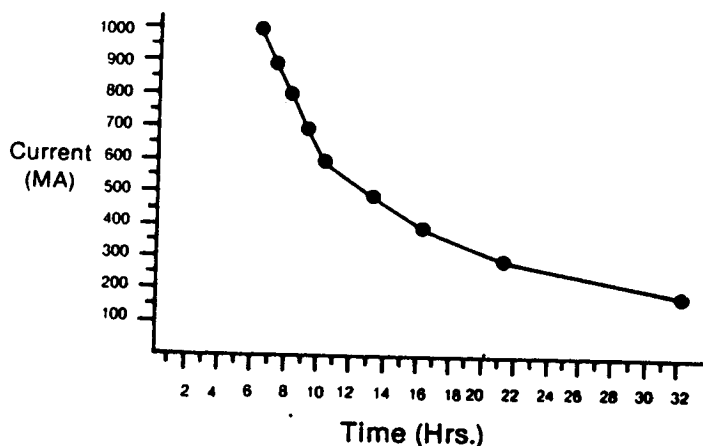

Figure 2.
To determine the current load of 2120 system, add all the current drains of all the remote modules as shown in Table 1. The standby time can then be calculated from Figure 2 which shows the expected hours of standby for various current loads using (2) 4 amp. hour 12 volt batteries (Model 6812).